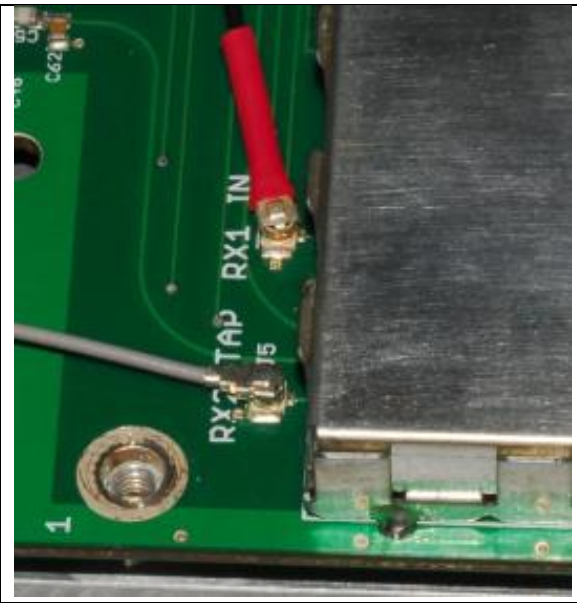

Figure 14b
d. Snap one end of the short coaxial cable on to connector, J5, on the transceiver board, labeled “RX2 TAP”, Figure 13a. This is a delicate operation as the connector is near the front of the transceiver board and right next to the metal RF shield (box). The cable end will snap on once it’s lined up properly. Something you might try is holding the cable, with one of your hands; a couple of inches from the cable end, and position it directly on top of the connector on the transceiver board. With your other hand, reach in and push straight down with your finger. It’s a tight fit, so you’ll need to make sure the two pieces are directly over each other and you push straight down. Several attempts may be required. Don’t give up, it can be done! Once you have it connected, it would be a good idea to adjust the cable so it is pointed out away from the side of the metal RF shield on the transceiver board. If you don’t do so, you’ll have a hard time retrieving the cable later, see Figure 14b.